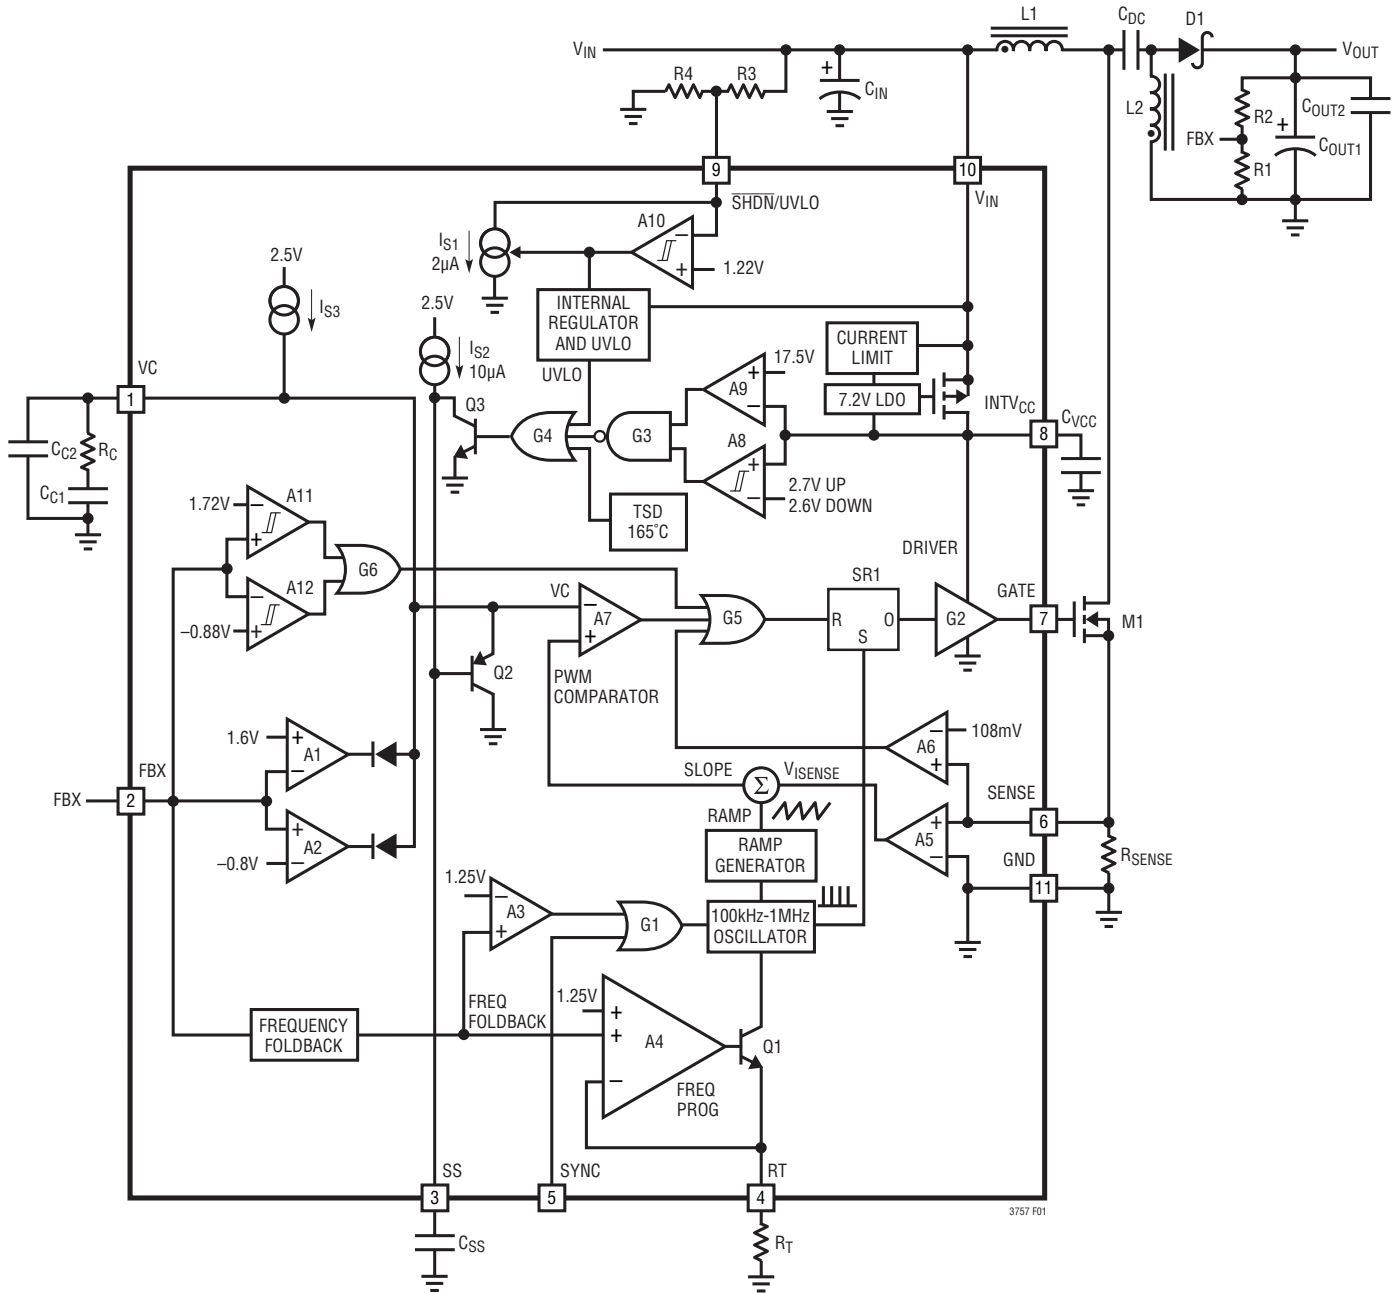

Figure 1. LT3757 Block Diagram Working as a SEPIC Converter
The LT3757 uses a fixed frequency, current mode control scheme to provide excellent line and load regulation. Operation can be best understood by referring to the Block Diagram in Figure 1.
The LT3757 is capable of generating either positive or negative output voltage with a single FBX pin. It can be configured as a boost, flyback or SEPIC converter to generate positive output voltage, or as an inverting converter to generate negative output voltage. When configured as a SEPIC converter, as shown in Figure 1, the FBX pin is pulled up to the internal bias voltage of 1.6V by a voltage divider (R1 and R2) connected from  $V_{OUT}$  to GND. Comparator A2 becomes inactive and comparator A1 performs the inverting amplification from FBX to VC. When the LT3757 is in an inverting configuration, the FBX pin is pulled down to
The purpose of this current is to allow the user to program the rising hysteresis. The Block Diagram of the comparator and the external resistors is shown in Figure 1. The typical falling threshold voltage and rising threshold voltage can be calculated by the following equations:
An internal, low dropout (LDO) voltage regulator produces the 7.2V INTVCC supply which powers the gate driver, as shown in Figure 1. If a low input voltage operation is expected (e.g., supplying power from a lithium-ion battery or a 3.3V logic supply), low threshold MOSFETs should be used. The LT3757 contains an undervoltage lockout comparator A8 and an overvoltage lockout comparator A9 for the INTVCC supply. The INTVCC undervoltage (UV) threshold is 2.7V (typical), with 100mV hysteresis, to ensure that the MOSFETs have sufficient gate drive voltage before turning on. The logic circuitry within the LT3757 is also powered from the internal INTVCC supply.
The choice of operating frequency may be determined by on-chip power dissipation, otherwise it is a trade-off between efficiency and component size. Low frequency operation improves efficiency by reducing gate drive current and MOSFET and diode switching losses. However, lower frequency operation requires a physically larger inductor. Switching frequency also has implications for loop compensation. The LT3757 uses a constant-frequency architecture that can be programmed over a 100kHz to 1000kHz range with a single external resistor from the RT pin to ground, as shown in Figure 1. The RT pin must have an external resistor to GND for proper operation of the LT3757. A table for selecting the value of  $R_T$  for a given operating frequency is shown in Table 1.
The output voltage ( $V_{OUT}$ ) is set by a resistor divider, as shown in Figure 1. The positive and negative  $V_{OUT}$  are set by the following equations:
The LT3757 addresses this mechanism with the SS pin. As shown in Figure 1, the SS pin reduces the power MOSFET current by pulling down the VC pin through Q2. In this way the SS allows the output capacitor to charge gradually toward its final value while limiting the start-up peak currents. The typical start-up waveforms are shown in the Typical Performance Characteristics section. The inductor current  $I_L$  slewing rate is limited by the soft-start function.
component values and the operating conditions (including the input voltage, load current, etc.). To compensate the feedback loop of the LT3757, a series resistor-capacitor network is usually connected from the VC pin to GND. Figure 1 shows the typical VC compensation network. For most applications, the capacitor should be in the range of 470pF to 22nF, and the resistor should be in the range of 5k to 50k. A small capacitor is often connected in parallel with the RC compensation network to attenuate the  $V_C$  voltage ripple induced from the output voltage ripple through the internal error amplifier. The parallel capacitor usually ranges in value from 10pF to 100pF. A practical approach to design the compensation network is to start with one of the circuits in this data sheet that is similar to your application, and tune the compensation network to optimize the performance. Stability should then be checked across all operating conditions, including load current, input voltage and temperature.